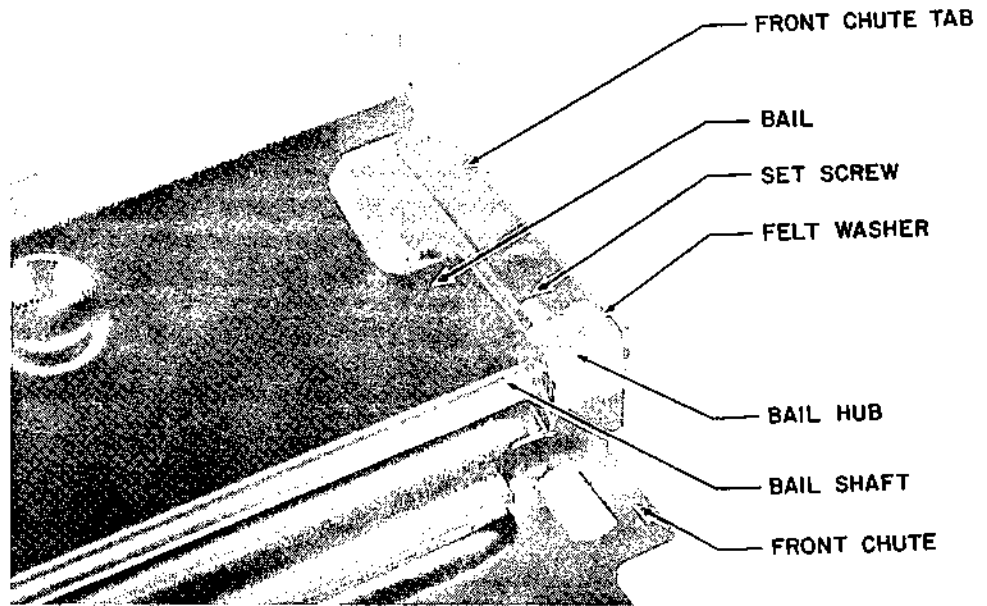

Figure 5-40 BAIL AND FRONT CHUTE ASSEMBLY
2. Study Figure 5-40. Lay the bail on the front chute as shown. Insert the bail shaft in the bail hubs. Place a felt oil washer on each end of the bail shaft, and saturate the felt with light oil. Carefully work the shaft ends into the holes in the front chute tabs. Insert a 4-40 x .187" setscrew into each bail hub, center the bail shaft, and tighten the setscrews.